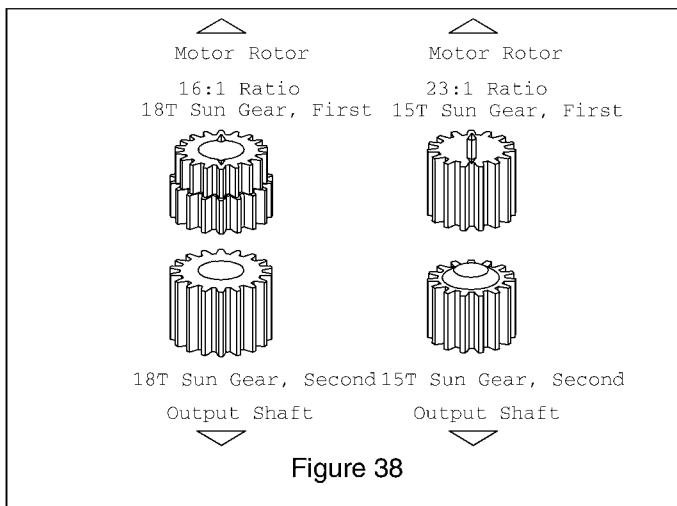

Figure 38
13. Shown in figure 38 are the first and second sun gears for 16:1 Gear ratios.